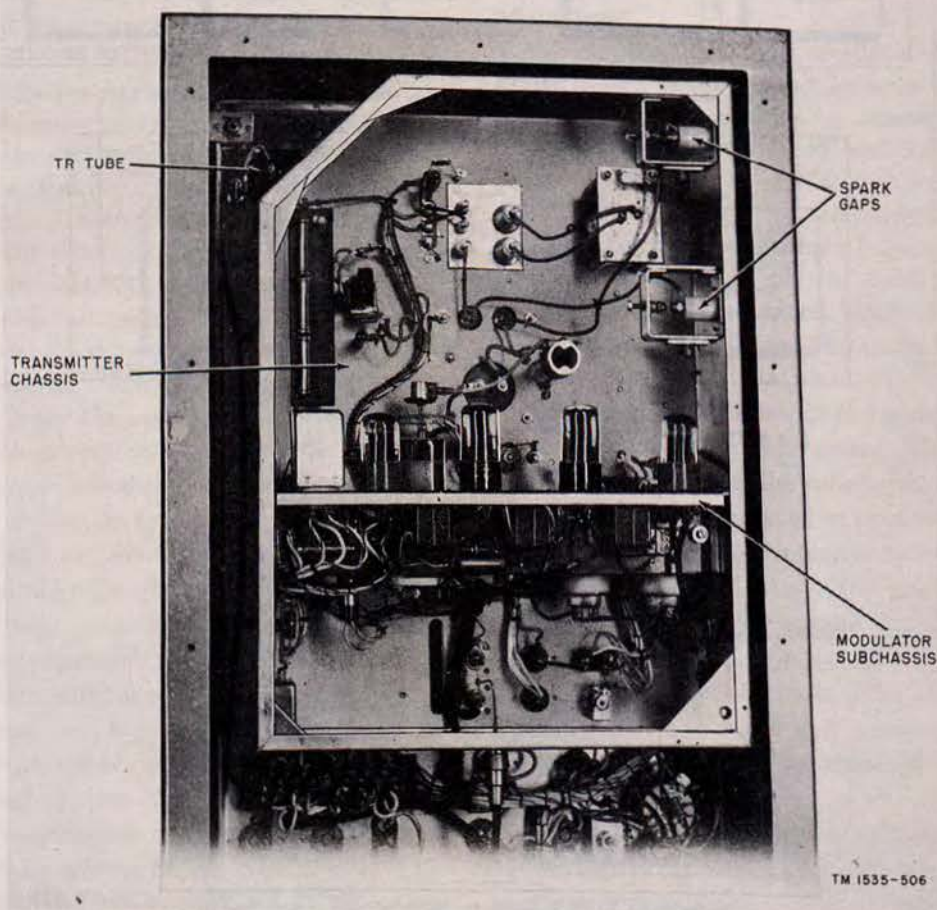

Figure 12. Shielded compartment.
*b.* The transmitter circuits are located within the shielded compartment (fig. 12) and on the front of the receiver-transmitter (fig. 11). Within the shielded compartment attached to the transmitter chassis is the modulator subchassis. The subchassis holds all the transmitting system tubes, except the magnetron.